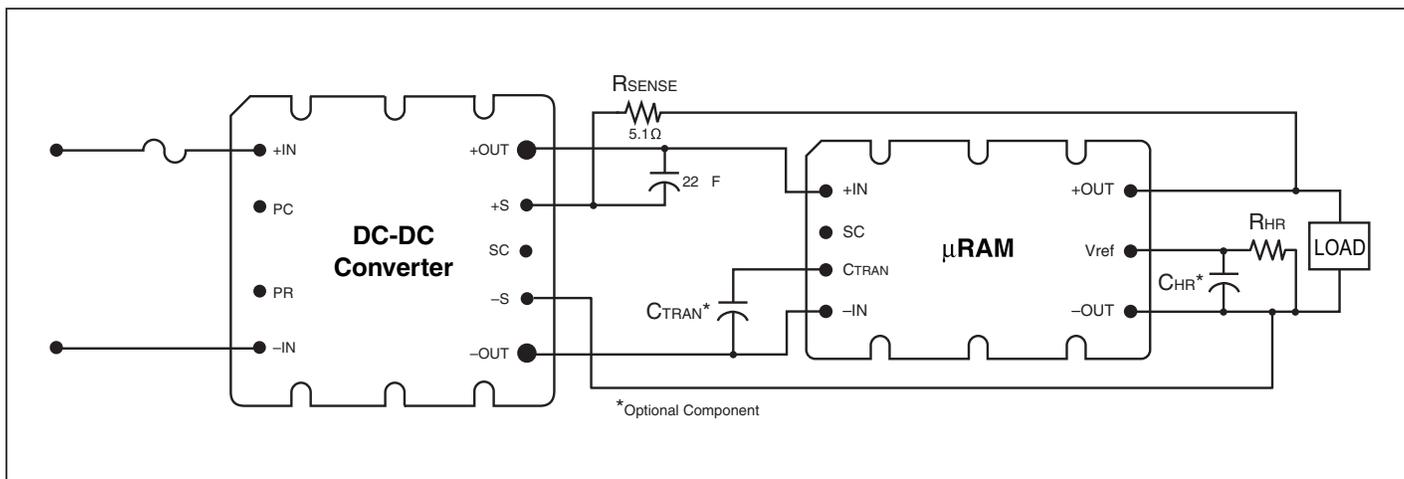
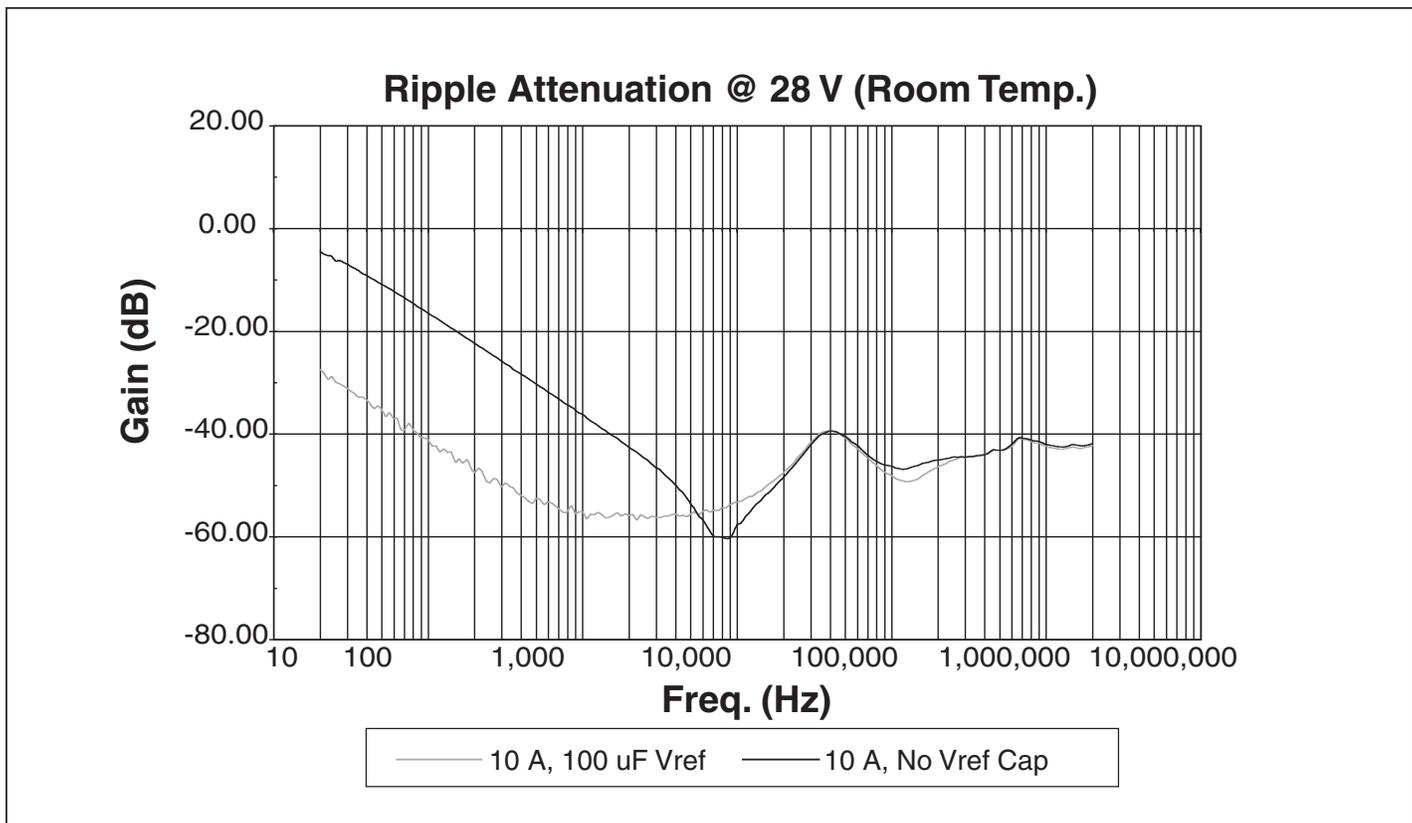

Figure 1 — Typical Configuration using Remote Sensing
Figure 3a
The MicroRAM has an internal passive filter that effectively attenuates ripple in the 50 kHz to 1 MHz range. An active filter provides attenuation from low frequency up to the 1 MHz range. The user must set the headroom voltage of the active block with the external RHR resistor to optimize performance. The MicroRAM must be connected as shown in Figures 1 or 2 depending on the load sensing method. The transient load current performance can be increased by the addition of optional CTRAN capacitance to the CTRAN pin. The low frequency ripple attenuation can be increased by addition of optional CHR capacitance to the VREF pin as shown in Figures 3a and 3b, on p. 5.
Figure 3a, 3b — Curves demonstrating the small signal attenuation performance as measured on a network analyzer with a typical module at (a) 28 V and 10 A output and (b) 5 V and 10 A. The low frequency attenuation can be enhanced by connecting a 100 μF capacitor, CHR, to the VREF pin as shown in Figures 1 and 2.
**Figure 9** — V375A28C600B and μRAM; Input and output dynamic response no added CTRAN; 20% of 20 A rating load step of 4 A (10 A – 14 A); RHRR = 178 k (Configured as in Figs. 1 & 2)
**Figure 10** — V375A28C600B and μRAM; Input and output dynamic response CTRAN=820 μF Electrolytic; 32.5% of load step of 6.5 A (10 A – 16.5 A); RHRR=178 k (Configured as in Figs. 1 & 2)
**Figure 12 — V300B12C250B and μRAM; Input and output dynamic response no added CTRAN; 17.5% of 20 A rating load step of 3.5 A (10 A – 13.5 A);RHR=80 k (Configured as in Figs. 1 & 2)**
**Figure 13 — V300B12C250B and μRAM; Input and output dynamic response CTRAN = 820 μF Electrolytic; 30% of load step of 6 A (10 A – 16 A);RHR=80 k (Configured as in Figs. 1 & 2)**
**Figure 15 — V48C5C100B and μRAM; Input and output dynamic response no added CTRAN; 22.5% of 20 A rating load step of 4.5 A (10 A – 14.5 A);RHR=31k (Configured as in Figs. 1 & 2)**
**Figure 16 — V48C5C100B and μRAM; Input and output dynamic response CTRAN=820 μF Electrolytic; 35% of load step of 7 A (10 A – 17 A);RHR=31 k (Configured as in Figs. 1 & 2)**